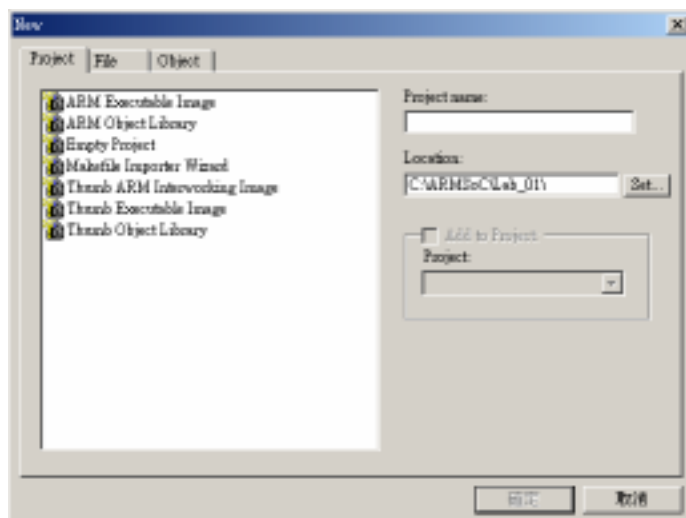

Figure 4. New dialog.
1. Select **File** **New... (or Ctrl+Shift+N)**. A New dialog is displayed (Figure 4).
2. Ensure that the **Project** tab in Figure 4 is selected. The available ARM project stationery is listed in the left of the dialog, together with the Empty Project stationery and the Makefile Importer Wizard.